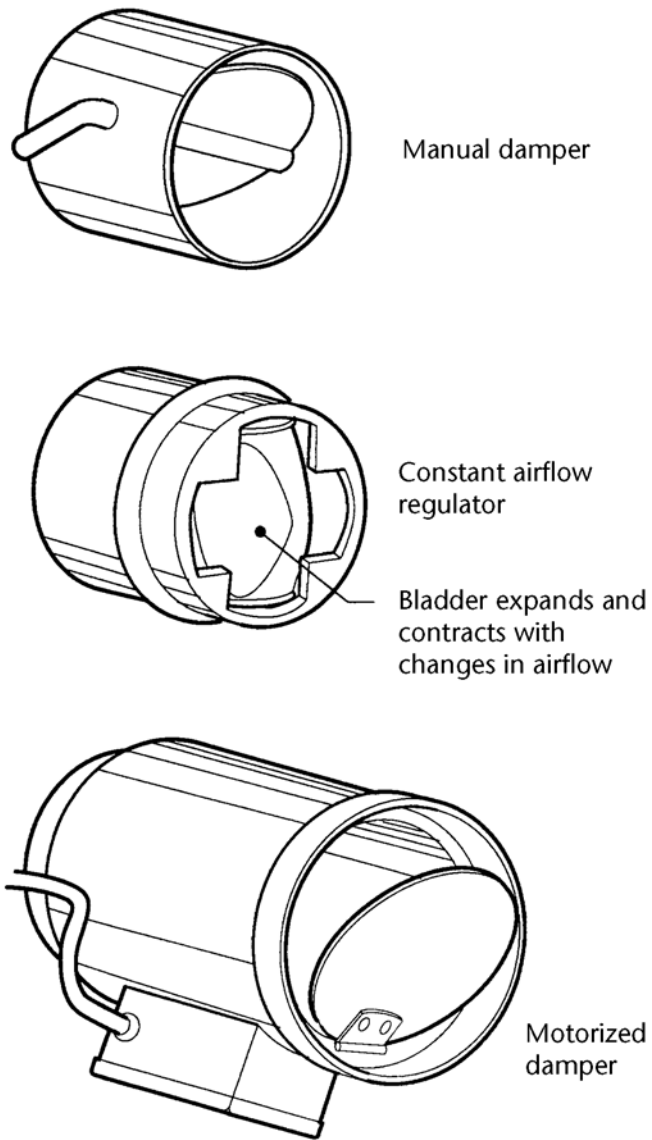

Figure 8-8
- A motorized damper connected to the automatic ventilation control (see Figure 8-8).
Automatic or Flow-Regulated Device. This type of damper refers to a constant airflow regulator, which limits airflow to a specified CFM. This device may be used when it is demonstrated, by field testing or calculation, that there is at least .07" water gauge negative pressure at the connection of the outside air duct and the return air plenum must be the same size as the connecting duct work or 8 inches in diameter, whichever is larger (see Figure 8-8).
- A manual damper installed and set to meet measured flow rates in VIAQ Table 3-2. (see Figure 8-8).
- An automatic or flow-regulated device. (see Figure 8-8).